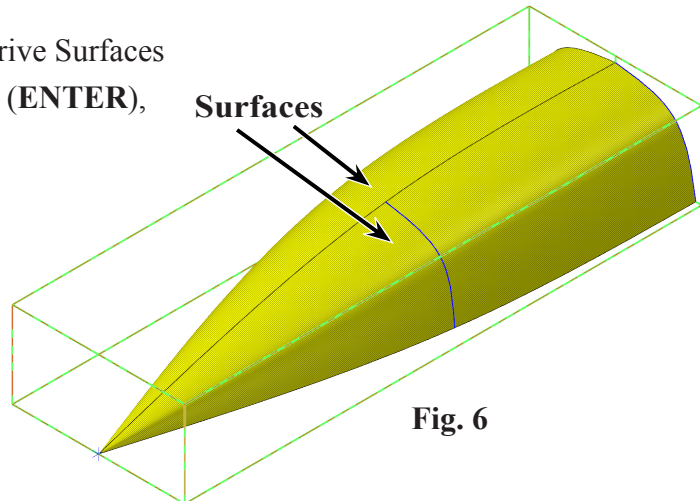

Fig. 6
Step 3. Click the **two surfaces** to select as Drive Surfaces and click **End Selection** (ENTER), Fig 6.